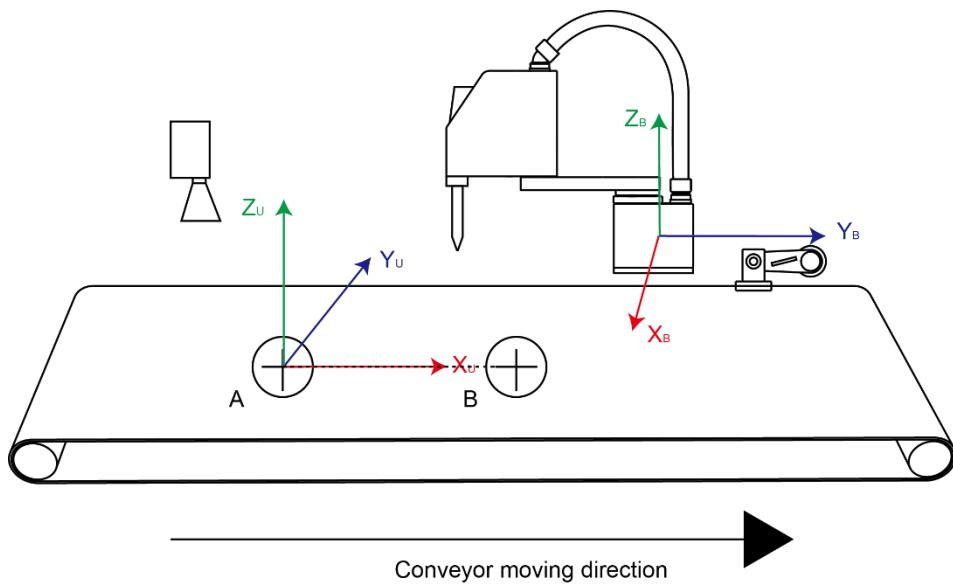

Figure 5.9 User coordinate system calibration
**Step 8** Make the 3-position switch in the middle gear to enable the motor and jog the robot to the label position on the conveyor, and click **Get Second Point** on the **Second Point** section. We called this point as point B. The line from point A to point B is defined as the positive direction of X-axis. And then the Y-axis and Z-axis can be defined based on the right-handed rule, as shown in Figure 5.9.